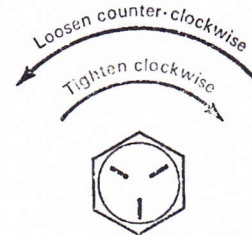

Fig. 2:13 Tightening and Loosening of Standard Right-hand-thread Fasteners
1. Standard fasteners are tightened by turning them in a clockwise direction, and loosened by turning them in a counter-clockwise direction (Fig. 2:13).